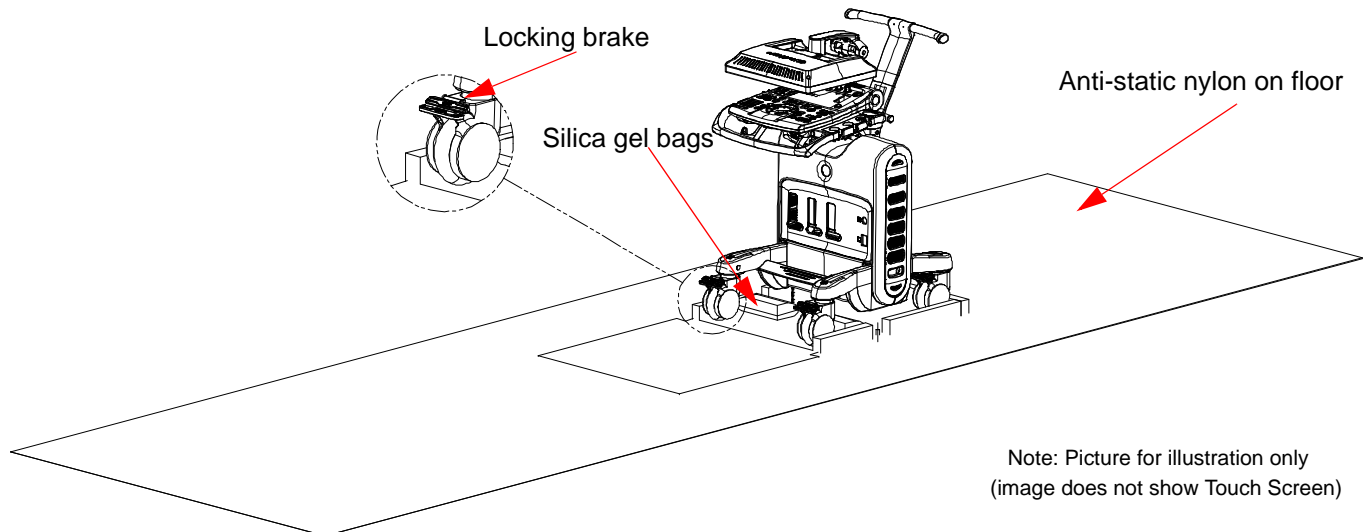

Figure 3-15 Locking Wheel Brake
- 11.) Remove the two silica gel bags (Figure 3-15).